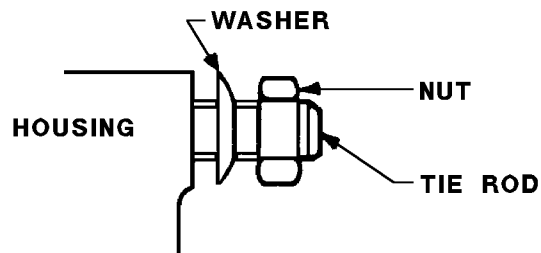

FIGURE 8-3. TIE ROD INSTALLATION
4. Install the four tie rods with the dished washer between the nut and housing. See Figure 8-3.